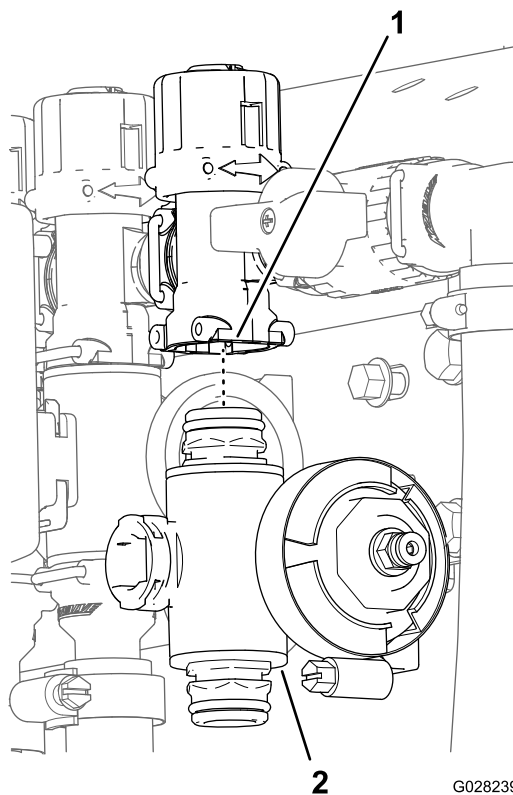

Figure 75
3. For the left or right section valves, remove the flanged-head bolts and flanged locknuts that secure the section valve(s) to the valve mount and remove the valve manifold(s) from the machine; for the center section valve, remove the section-valve manifold from the machine (Figure 75).